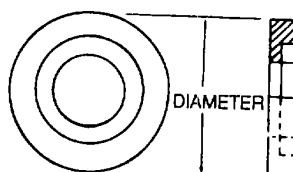

Figure 2-32. Taper Pin Washer
c. High Tensile Special Washers. Taper pin, high tensile, countersunk, and preload indicating special washers are identified in figures 2-32 through 2-35.